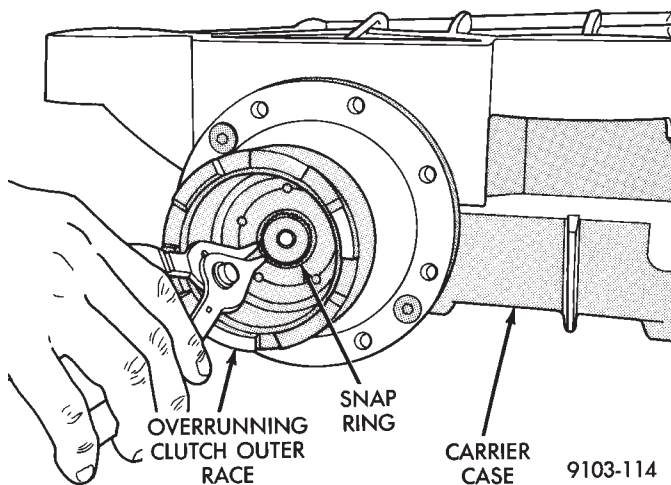

Fig. 3 Overrunning Clutch Snap Ring Removal
- (4) Remove overrunning clutch outer race snap ring (Fig. 3).